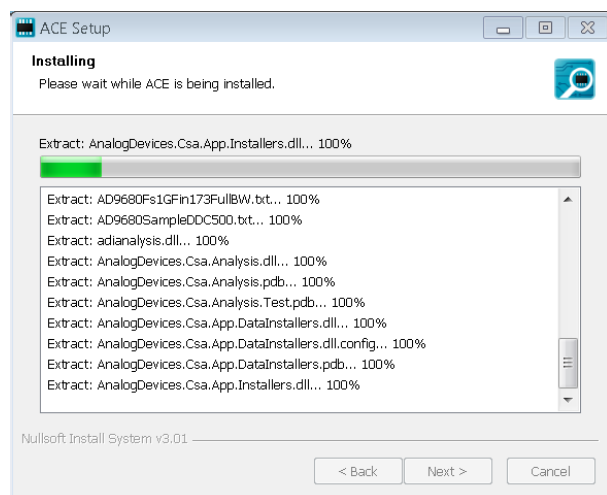

Figure 7. Installation in Progress
8. A display bar showing the installation progress appears, as shown in Figure 7.